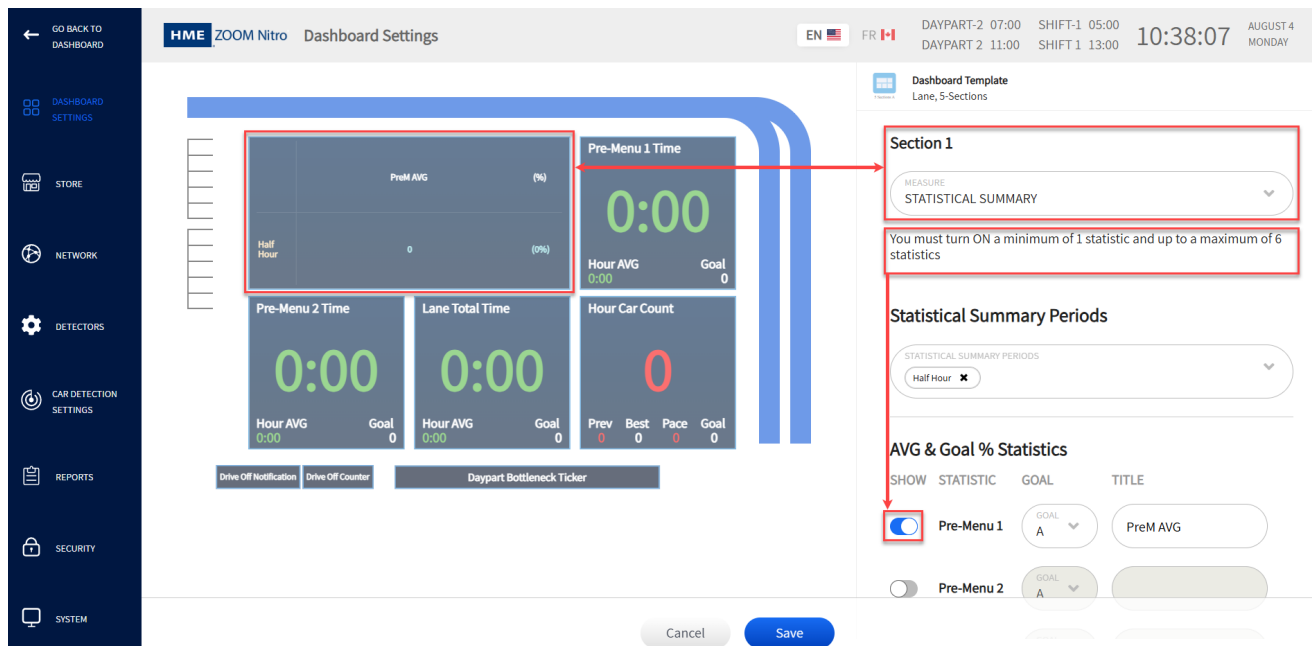

Fig. 3.6
The Data Section must be large enough to support Statistical Summary data; therefore, only the large rectangular section (Section 1) in Fig. 3.6 can accommodate a Statistical Summary.
4. Once a selection is made from the **Statistical Summary Periods** field, the Statistics option appears beneath this field. This set of options includes: **AVG & Goal % Statistics**, **Disastrous Orders Statistics**, and **Car Count Statistics** (scroll down to view). You must then enable at least one statistic from the list for the Data Section (Section 1 in this example) to populate (see Fig. 3.6). Up to six statistical options can be selected.